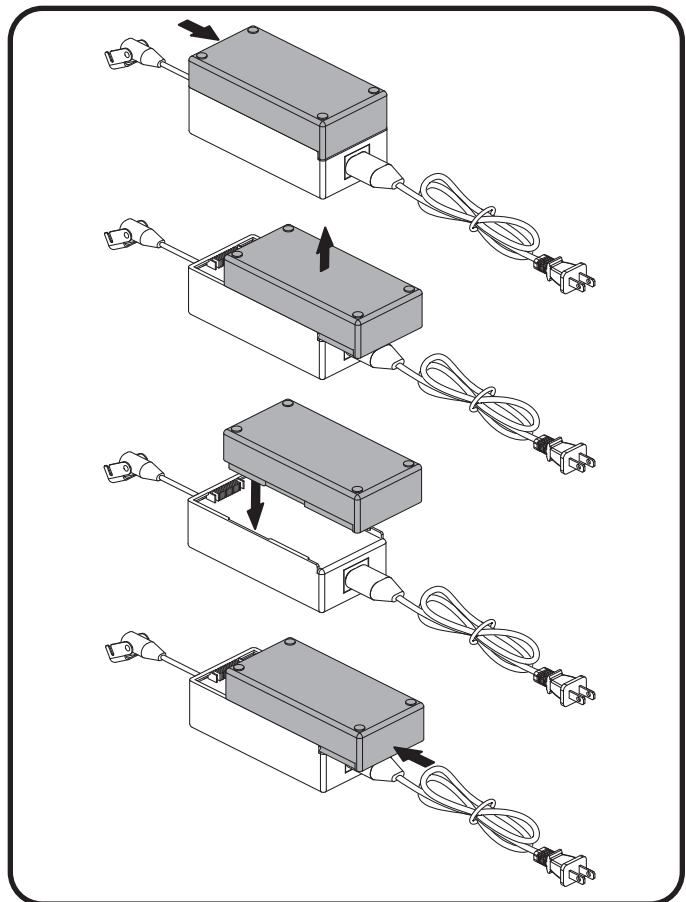

Figure 4.3 Lithium-Ion Battery Replacement
2. Position the external transformer so that the lithium-ion battery is facing upward (**fig. 4.3**).
5. Place the new lithium-ion battery on top of the external transformer with the securement grooves toward the external transformer (**fig. 4.3**).